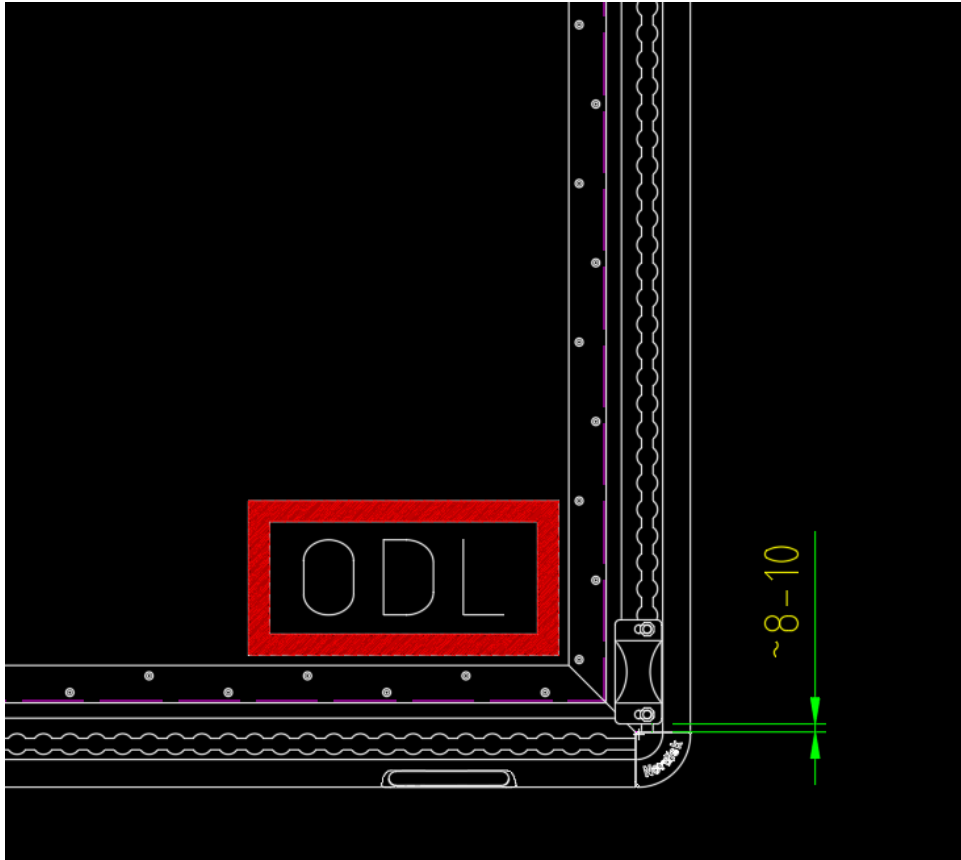

Figure 1
1. Position is to be determined. Suggested placement is at the left side of the short extrusion as close to the end of the extrusion as possible. (~8 to 10mm from edge of the extrusion) (see figure 1) Make sure the double stud is gripping correct in seat track on both sides.